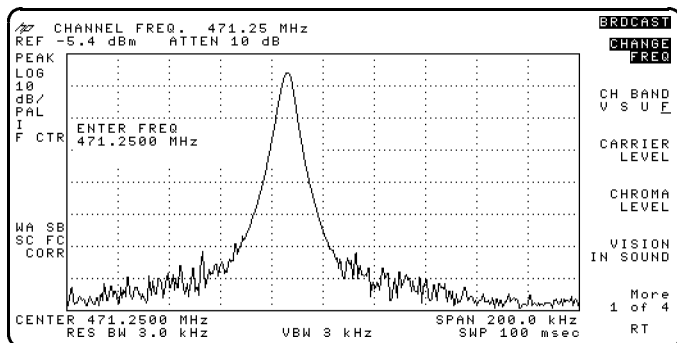

Figure 2-6. Non-TV Channel Selected by Carrier Frequency
9. The current channel carrier frequency appears at the top of the screen in the title line. The carrier is placed just below the reference level. Refer to Figure 2-6.